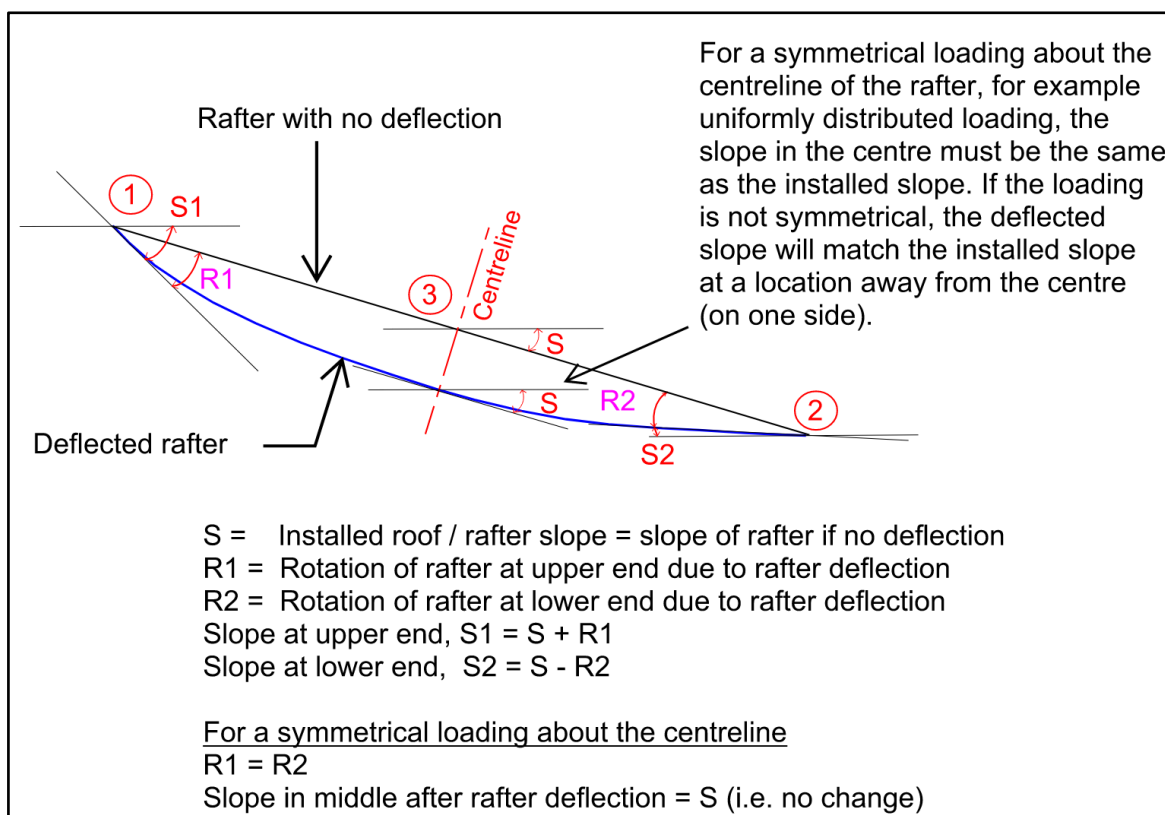

Figure 1 – Analysis of roof slopes due to rafter rotations
- (a) Where the roof is supported on the timber rafters which are parallel to the roof sheeting (i.e. there are timber roof battens perpendicular to the roof sheeting), deflections of the rafter will increase the roof slope at the high end and decrease the roof slope at the low end. This is indicated in the Figure 1 below, where it can be seen that, for a symmetrical loading (eg a uniformly distributed load), then